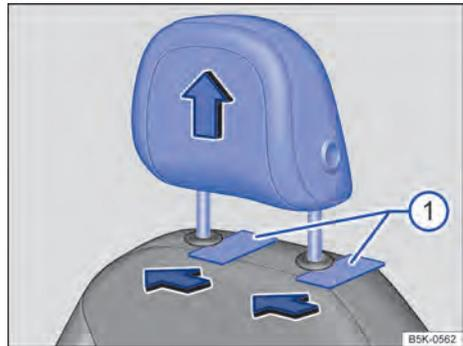
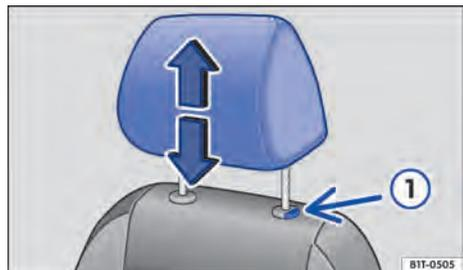

Fig. 77 On the front seat: Removing head restraint (variant 1).
Fig. 78 On the front seat: Removing head restraint (variant 2).
2. *Variant 1:* Slide a flat object between the backrest cover and the caps on the head restraint guide pins, e.g. a plastic card → Fig. 77 ①. Pull the head restraint out completely.
Variant 2: Pull the head restraint out fully while pressing the button → Fig. 78 ①.
2. Press and hold the button → Fig. 77 ① or → Fig. 78 ① and push down the head restraint.